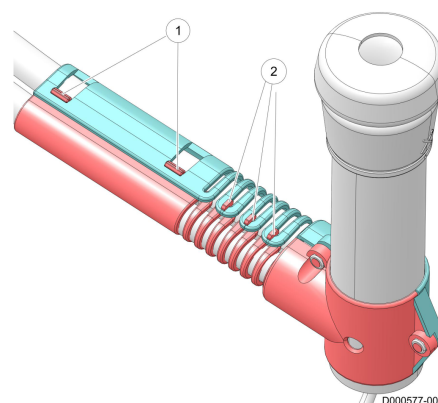

Figure 39. Install the twin tube cover
7. Push the two parts of the twin tube cover together (see figure 39 on page 5-19).
8. Connect the flexible parts (2) at both sides of the twin tube cover (see figure 39 on page 5-19).